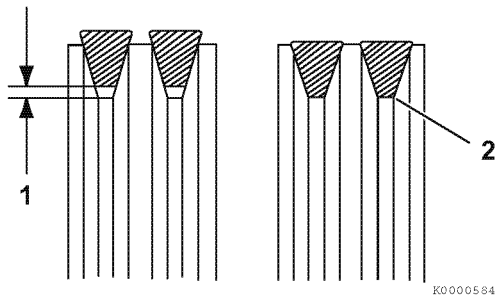

Figure 8-11
8. Inspect the condition of the V-belt. There must be clearance (1, **Figure 8-11**) between the V-belt and the bottom of the pulley groove. If there is no clearance (2, **Figure 8-11**) between the V-belt and the bottom of the pulley groove, replace the V-belt.